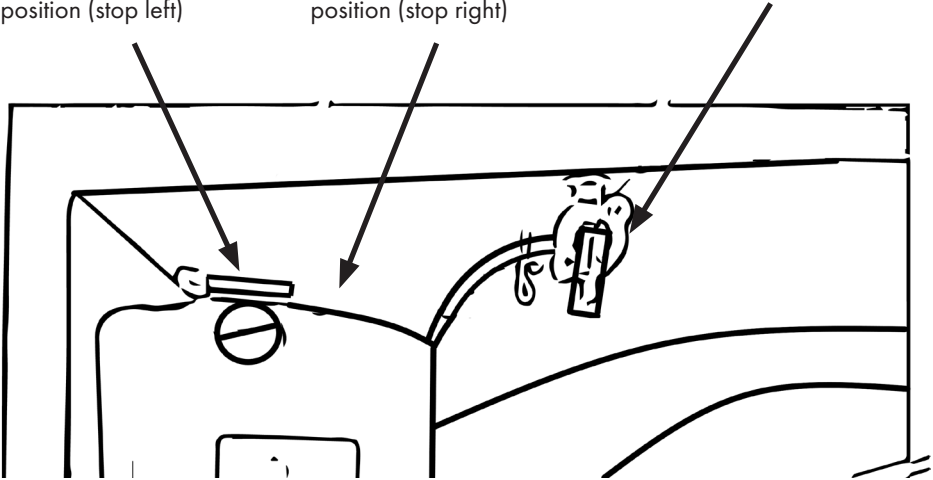

Figure 12
- Open the fuel tap. See also Fig. 12. (Handle on the tap points downwards)